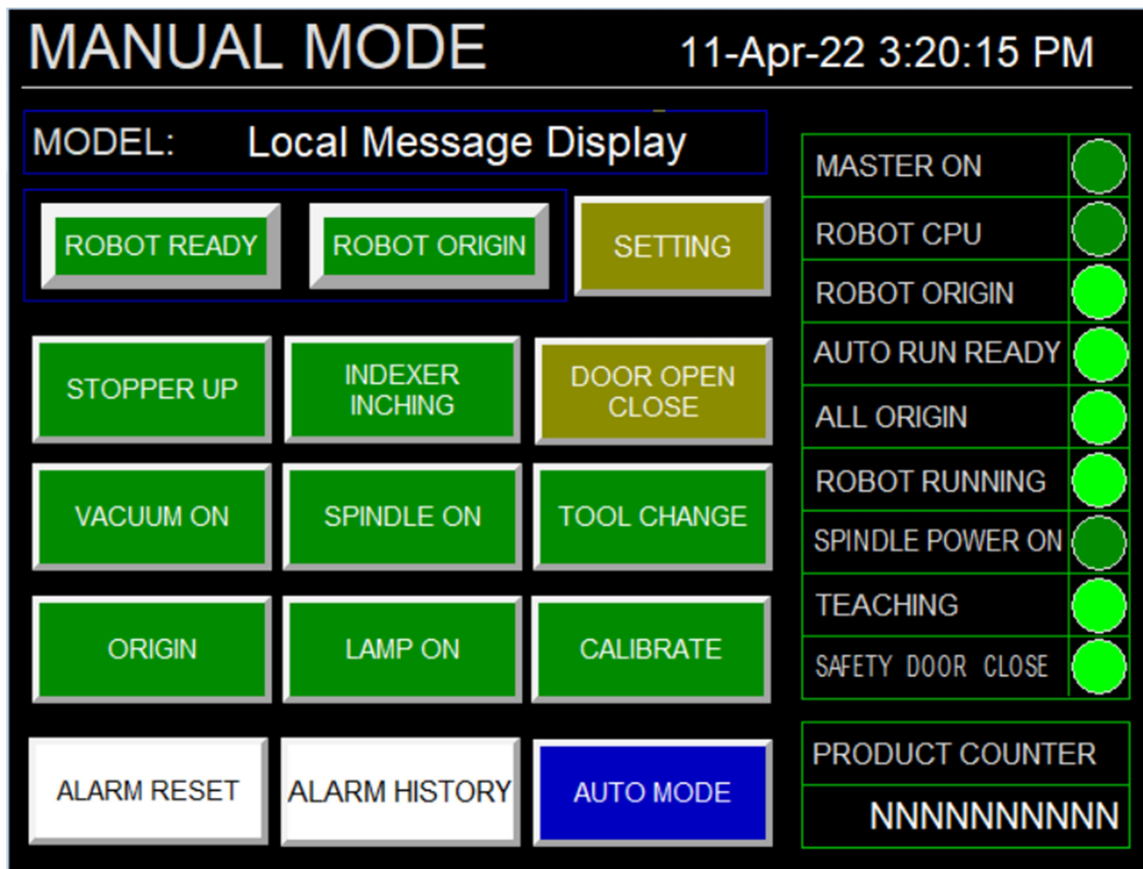

FIGURE 2: MANUAL PAGE
- 2) Touch panel will display manual mode screen as shown in Figure 2. In manual mode, each of the machine's actuators (cylinders, vacuum and lamp) can be individually controlled.